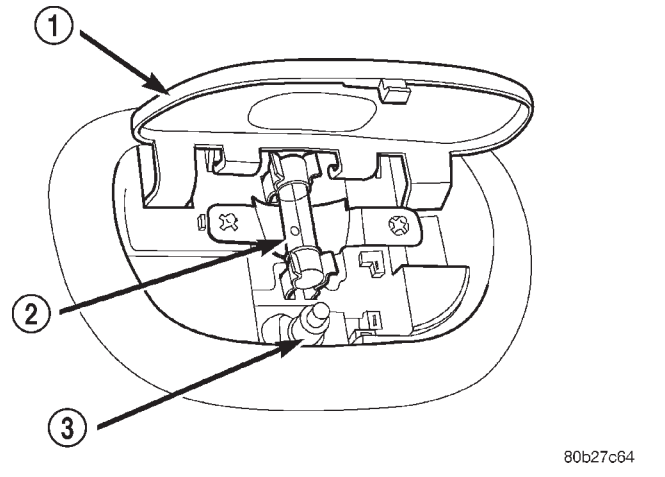

Fig. 10 Dome/Reading Lamp Bulb
- (2) Pull bulb from socket (Fig. 10).